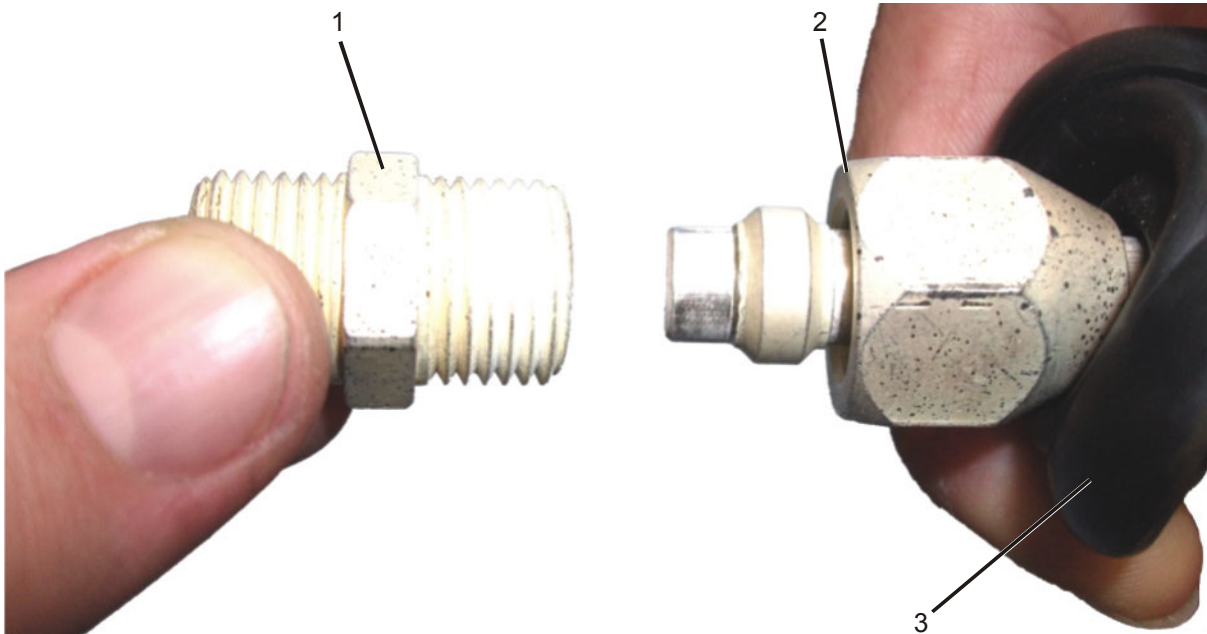
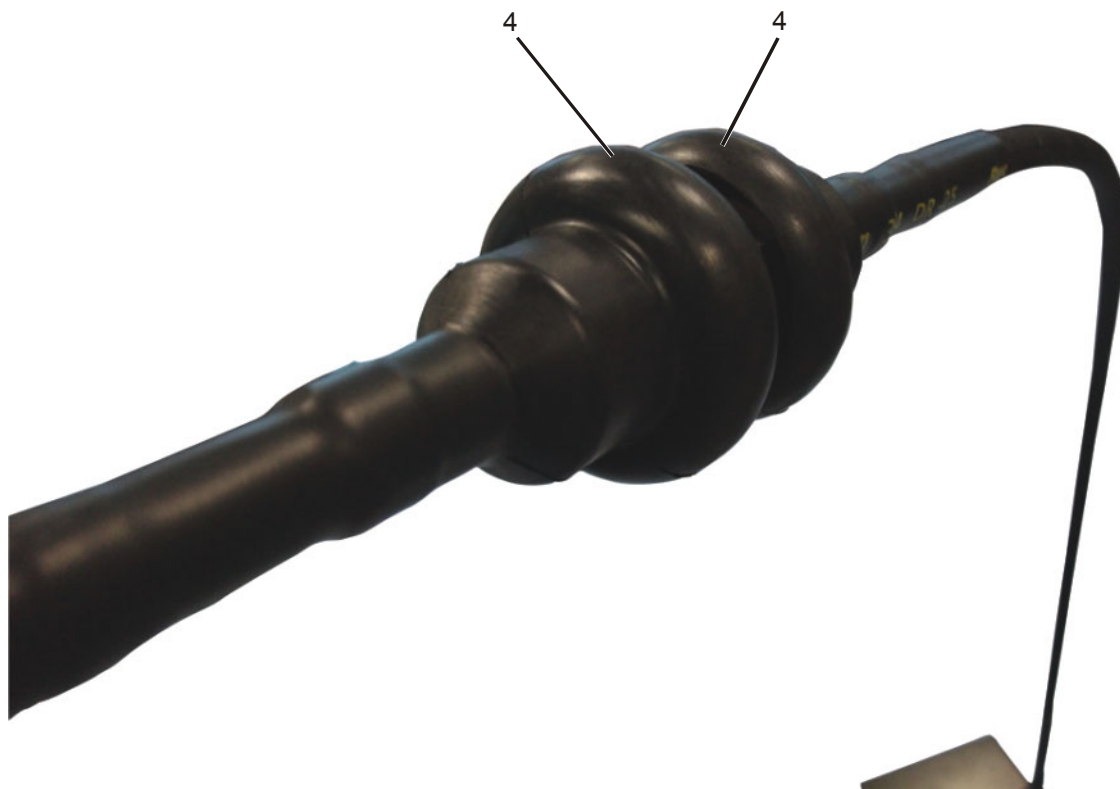

Figure 2-5. Antenna Connection 1
Figure 2-7. Antenna Connection 3
2.2.2.3 Antenna Connection (See Figure 2-5 to Figure 2-7)
- b. Place the adapter (1) in the connection nut and tighten the connection nut (see Figure 2-5).
- e. Pull the two connectors covers (4) toward each other to cover the connection point (see Figure 2-7).